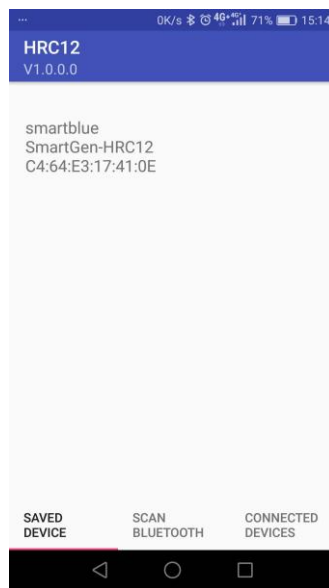

Fig. 5 Saved Device Interface
(1) Download HRC12 Bluetooth Communication Module APP from SmartGen and install it in the mobile phone; open mobile APP interface as Fig. 5 Saved Device Interface, and the list shows the saved device. Click the connected device (it will jump to the connected interface if the connection is successful. If connection is overtime, or device is far to connect, it will display on the current page.). Press longer to select (Delect Dialog Box will appear.).